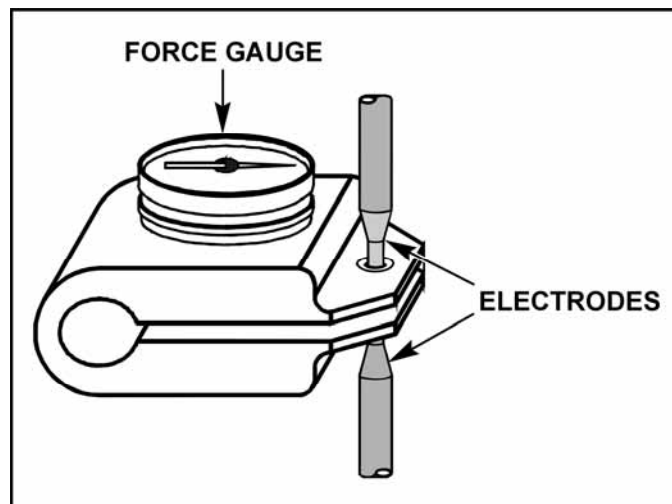

Figure 4-3. Measuring Preset Firing Force of the Weld Head with a Force Gauge
- 10 Adjust the pressure regulator, which controls the air pressure on the top of the air cylinder so that it is *just sufficient* to cause the Force Firing Switch in the head to close (see figure 4-3). *When the Force Firing Switch in the head closes, the screen on the power supply will no longer display STANDBY.* Re-adjust both flow controls, as necessary.